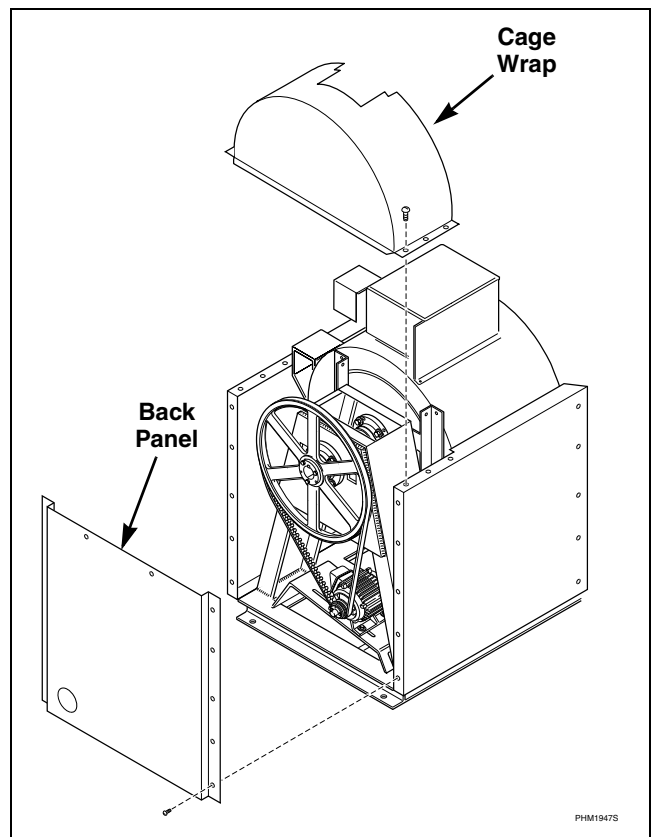

Figure 14
- Remove the screws attaching the cage wrap and the back panel to the machine. Remove the cage wrap and the back panel. Refer to *Figure 14*.